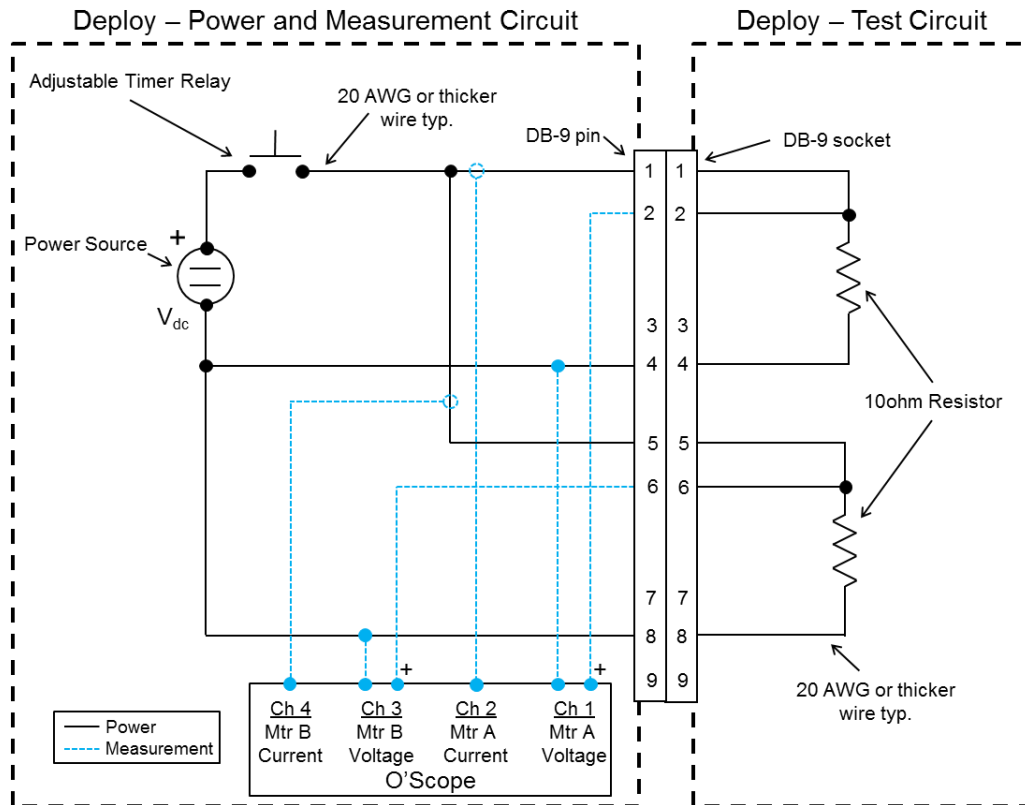

Figure 29: Deploy Test Circuit
9.1.2	<p>Set up the 'Deploy – Power and Measurement Circuit' per Figure 29.</p> <p>Incorporate an adjustable timer relay to precisely control the time power is applied. See Figure 43. Do not connect the Lightband.</p>
9.1.7	<p>Set up the 'Deploy – Test Circuit' per Figure 29.</p> <p>This uses a 10 ohm resistor (≥100 W) to simulate each Lightband motor.</p>